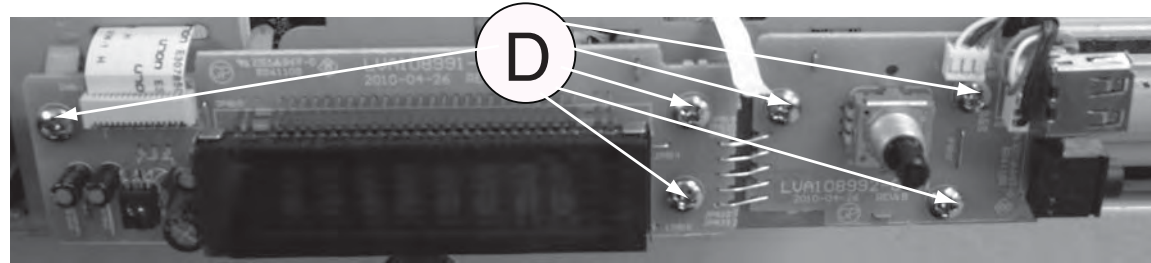

Figure 10
- 1) Loosen 6 screws “D” on the top of VFD+VOL+USB+MP3 Board as shown in figure 10.